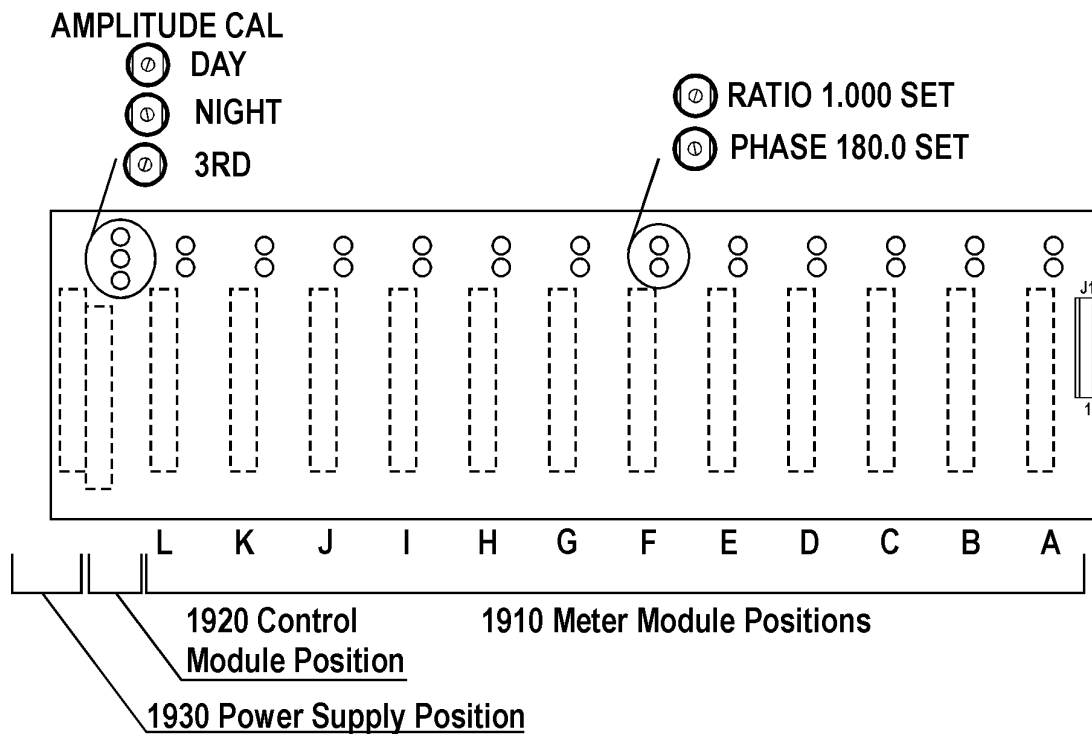
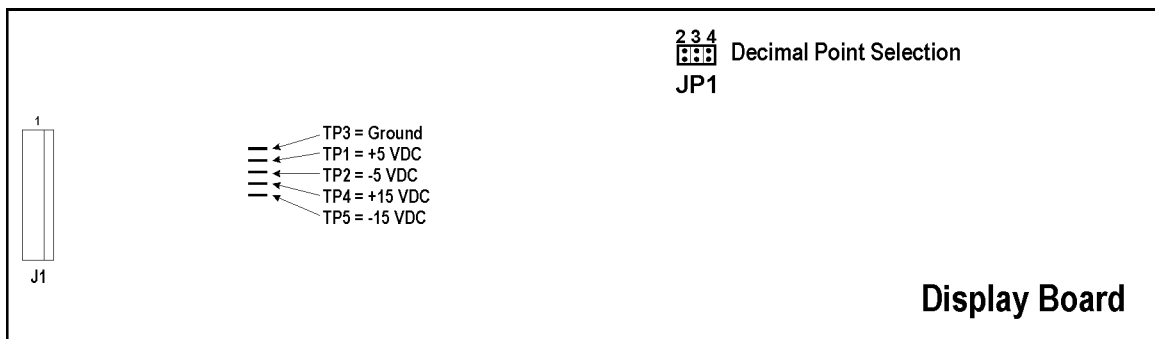

Figure 7. Adjustments accessible by opening 1901/1903 Front Panel
Figure 9. Front Panel Display Board Jumper Locations
Front-panel adjustments for each tower are located behind the hinged front panel. Figure 7 shows the locations of the adjustments on the backplane printed circuit board as they would be seen when looking into the unit from the front.
- (e) At the 1901 Monitor front panel, open the hinged door. There are tower number labels on the circuit board into which the modules are plugged. Where the tower number assignments have changed, remove and reinstall the labels to agree with the changes of Step 5(d). This completes the procedure. Figure 7 on page 16 shows the module locations as they appear with the front panel open.
Open the Monitor's front panel to access the adjustment potentiometers. Figure 7 on page 16 shows the adjustment locations. The three potentiometers marked DAY, NIGHT, and 3RD, are adjusted in the AMPL mode to set the amplitude scale factor. To adjust, select the desired pattern and adjust the corresponding potentiometer for the desired AMPL indication. The potentiometers are factory adjusted so that the display indicates the actual input rms carrier voltage up to 19.99 Volts. Above that level, the display will blank. A three-position jumper plug on the front panel Display circuit board (rear of front panel) sets the decimal point position, which is the same for all patterns. Figure 9 shows the location of the decimal point selection jumpers.
To check the power supply operation with the front panel open, locate the test points on the front panel display board. Refer to Figure 9 on page 21 for the location of the test points. The voltage should be measured from TP3 (Ground) to each of voltage test points. TP1 should read +5 VDC \pm 0.2 volts. TP2 should read -5 VDC \pm 0.2 volts. TP4 should read +15 VDC \pm 0.2 volts. TP5 should read -15 VDC \pm 0.2 volts.